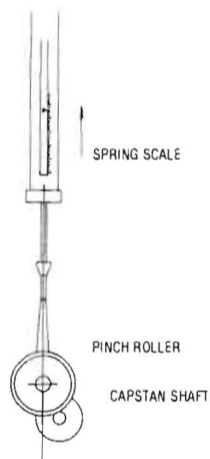

Figure 6-5
The pinch roller pressure against the capstan shaft is determined by the pinch roller solenoid spring. The pinch roller solenoid spring is adjusted with a nut as shown in **Figure 6-5**.
5. Pull on the scale straight from the center of the capstan shaft as shown in **Figure 6-5**. Note the scale reading when the pinch roller loses contact with the capstan (the pinch roller stops rotating). The scale reading should be 2.5 ~ 2.7 kg (5.5 ~ 5.9 pounds).